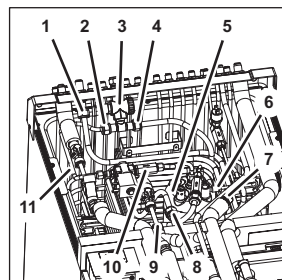

Figure 81
2. Disconnect the water input line (Figure 81/11) on the coupling (Figure 81/2) from the T-fitting of the water inlet pressure reducing valve (Figure 81/3).
3. Disconnect the connecting line from the non-return valve of the solenoid valve (Figure 81/10) to the carbonator tank from the coupling (Figure 81/5).
4. Lift the water input line (Figure 81/11) with the connecting line from the non-return valve of the solenoid valve (Figure 81/10) to the carbonator tank out of the unit.
5. Disconnect the pre-cooling coil from the coupling (Figure 81/4).
6. Disconnect the soda water circulation line (return) from the coupling (Figure 81/1).
7. Disconnect the CO₂-IN line from the coupling (Figure 81/6).
8. Disconnect the soda water line to the circulation pump from the push-in fitting (Figure 81/9).
9. Disconnect the connecting line from carbonator pump 1 to pre-cooling coil 1 from the coupling (Figure 81/8).
10. Disconnect the connecting line from carbonator pump 2 to pre-cooling coil 2 from the coupling (Figure 81/7).
27. Attach the connecting line from carbonator pump 2 to pre-cooling coil 2 to the coupling (Figure 81/7).
28. Attach the connecting line from carbonator pump 1 to pre-cooling coil 1 to the coupling (Figure 81/8).
29. Attach the soda water line to the circulation pump to the push-in fitting (Figure 81/9).
30. Attach the CO₂-IN line to the coupling (Figure 81/6).
31. Attach the soda water circulation line (return) to the coupling (Figure 81/1).
32. Attach the pre-cooling coil to the coupling (Figure 81/4).
33. Position the water input line (Figure 81/11) with the connecting line from the non-return valve of the solenoid valve (Figure 81/10) to the carbonator tank within the unit.
34. Attach the connecting line from the non-return valve of the solenoid valve (Figure 81/10) to the carbonator tank to the coupling (Figure 81/5).
35. Attach the water input line (Figure 81/11) on the coupling (Figure 81/2) to the T-fitting of the water inlet pressure reducing valve (Figure 81/3).